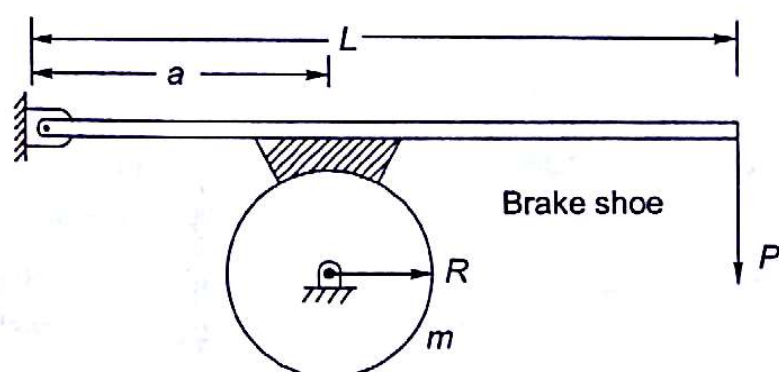

Fig. 18.14
- 18.3 A circular rotor of mass m and radius R which can rotate about its geometric axis is braked by the arrangement shown in the Fig. 18.14. The rotor is rotating with initial angular velocity ω , when the brake is applied. If the coefficient of kinetic friction between rotor and shoe brake is μ , in how many revolutions will the rotor come to rest?